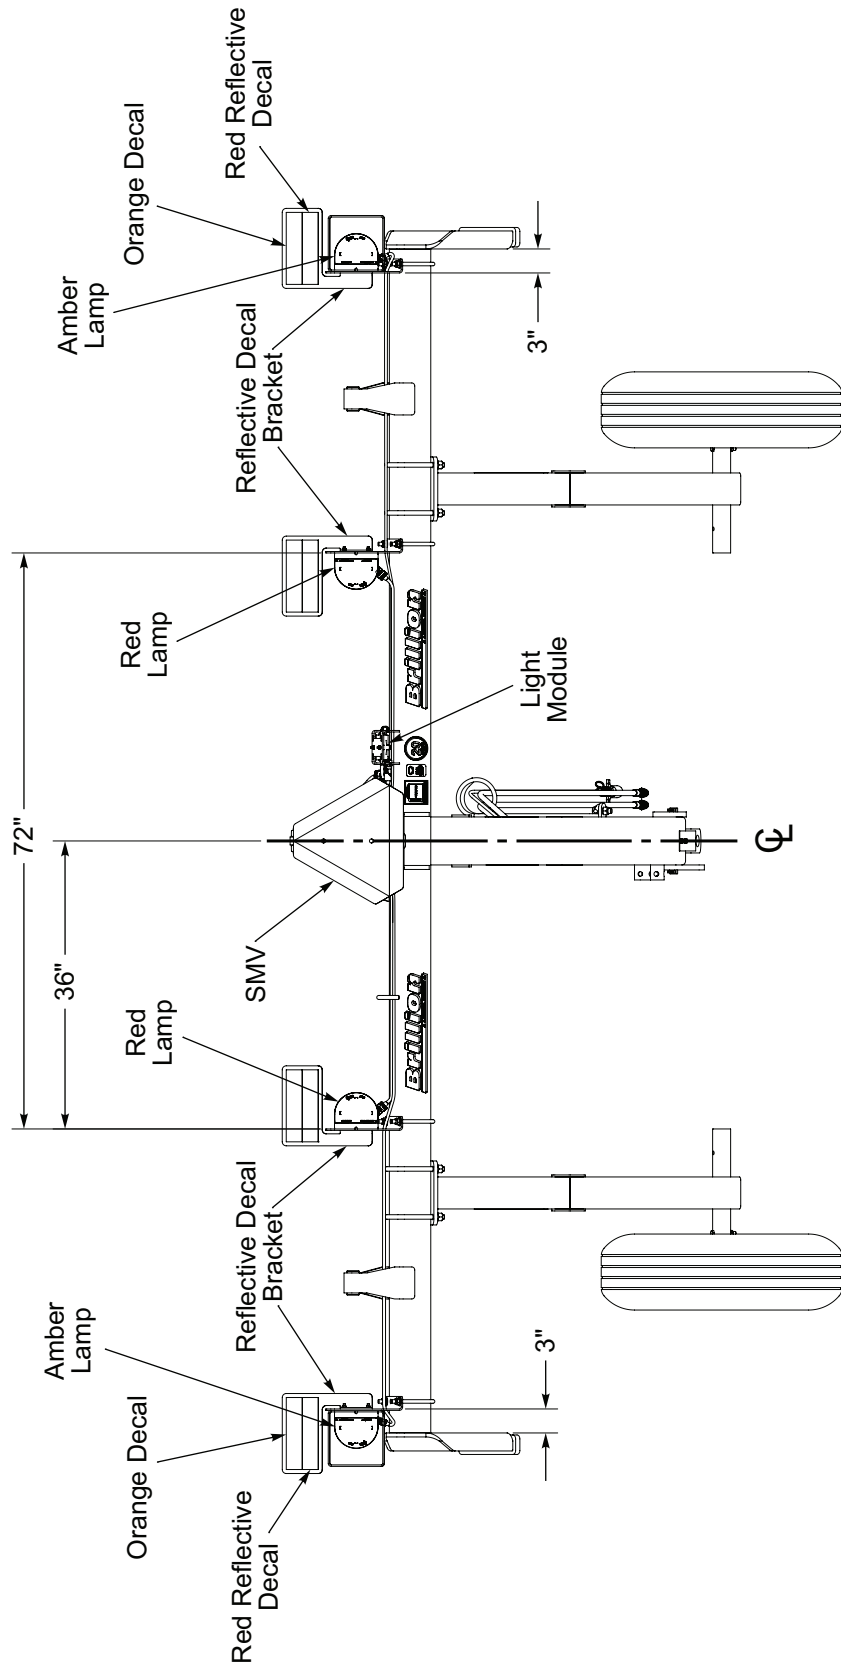

Figure 2-20: Pulverizer with Lift: LED Warning Lights Installation Dimensions
2. Install the inner Light Mount Brackets approximately 36" from center line using 1/2-13 U-Bolts and Locknuts. **See Figure 2-20.**